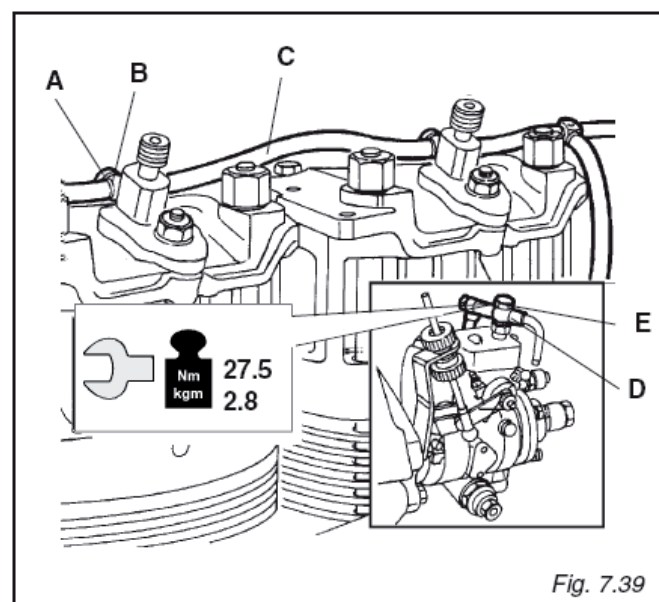

Fig. 7.39
7.36 FUEL RETURN AND DELIVERY PIPES (INJECTORS) (FIG. 7.39 - 7.40)